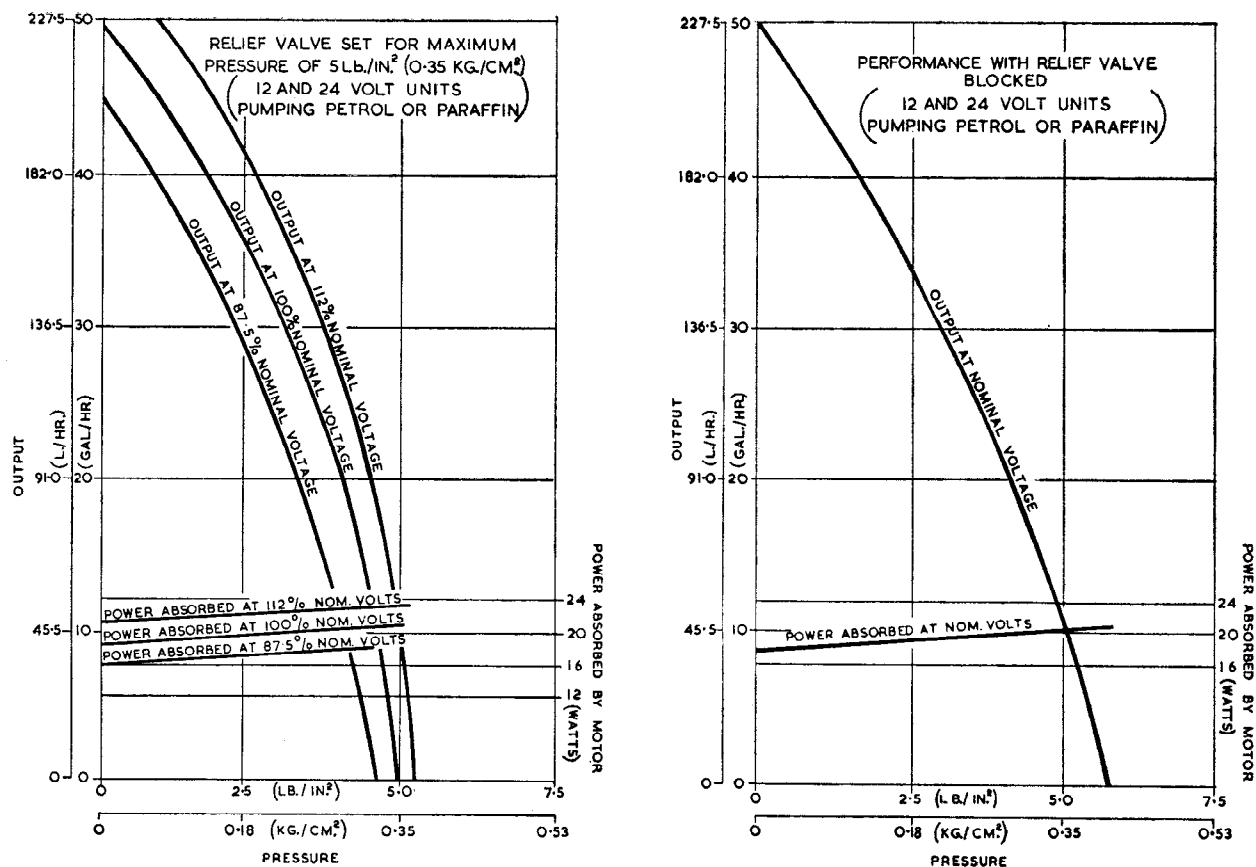

Fig. 3 Performance curves for petrol or paraffin (kerosene)
**Note:** The performance figures quoted above, and shown graphically in Fig. 3, are applicable when the fluid being pumped is petrol or paraffin (kerosene). Regardless of the fuel normally used, any pump can be bench tested using paraffin. Performance figures can, however, be provided for other fuels on receipt of the necessary data, i.e. application, name or type of fuel, its specific gravity, viscosity, operating conditions and temperature.
- (iv) If there is no fuel delivery, locate the snap-connector at which the pump is connected to the supply from the ignition switch. Measure the voltage and current at this point with the ignition switched "On". When working normally at the appropriate nominal voltage, the operating current will depend on the relief valve setting and delivery pressure. Excessive current consumption may indicate an internal fault necessitating a new unit. Approximate current values can be determined by reference to Fig. 3 and to the data on page 3.